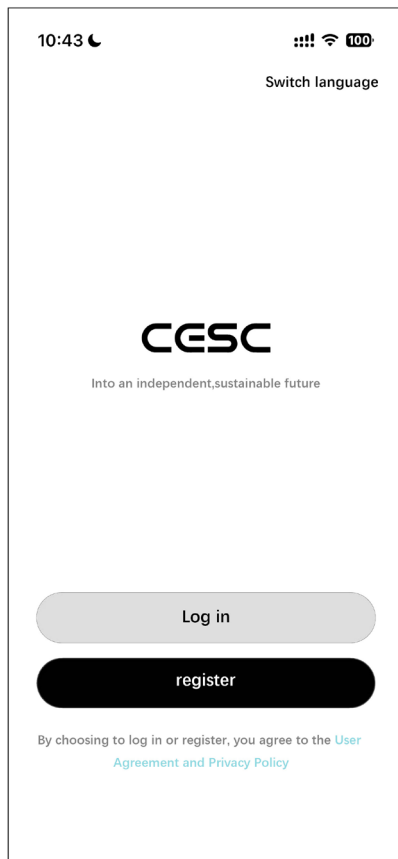

Figure 1
5.2.1 Login and Registration (see Figure 1)